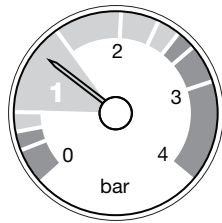

Fig. 1
1. The normal operating water pressure is between 1 and 2.5 bar (Fig. 1). If the pressure exceeds 3 bar the safety pressure valve will operate and a fault is indicated. Contact your installer.